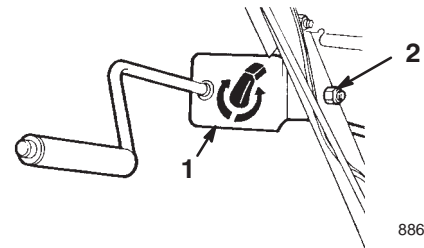

Figure 11
1. Assemble the chute control bracket and rod to the left side of the handle assembly with the bolt and the locknut as shown in Figure 11.
5. Tighten the locknut that secures the chute control bracket (Fig. 11).